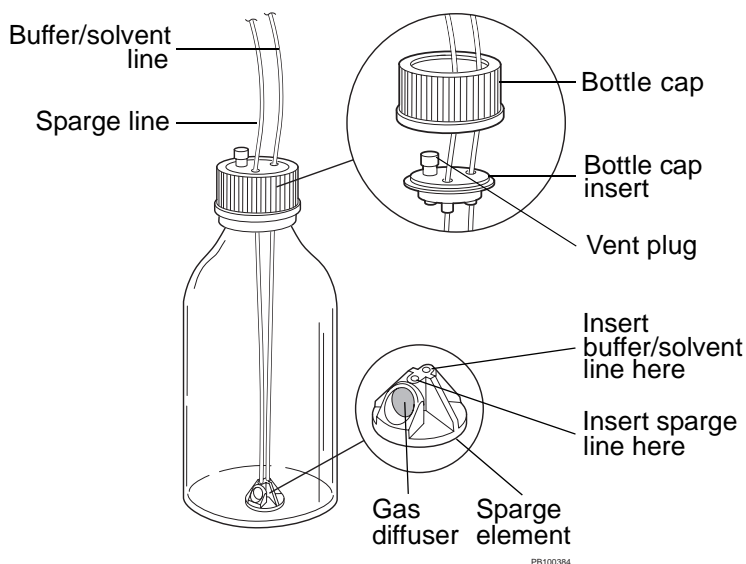

Figure 2-4 Buffer/Solvent Connections
3. Hold a bottle cap insert as shown in Figure 2-4.
1. Insert the reservoir-end of the sparge line snugly into the port next to the gas diffuser on the sparge element (see Figure 2-4).